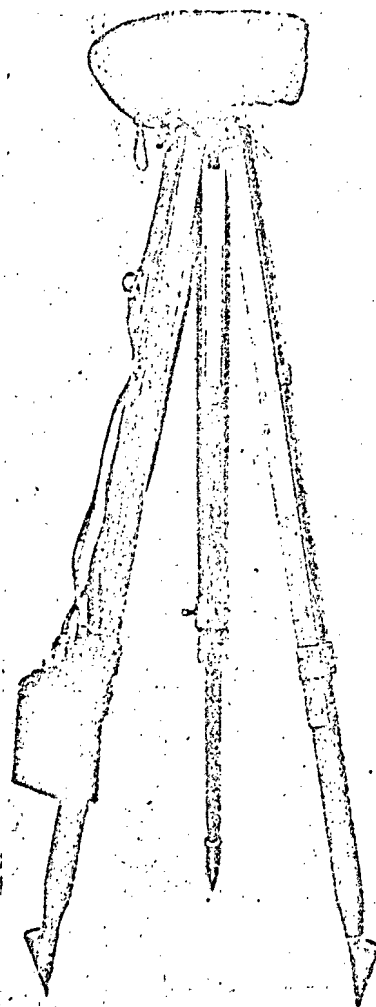

Figure 91. Gun Collimator on Tripod, Covered With Hood
- in inclement weather the collimator should be covered with a hood during breaks in firing (figure 91);